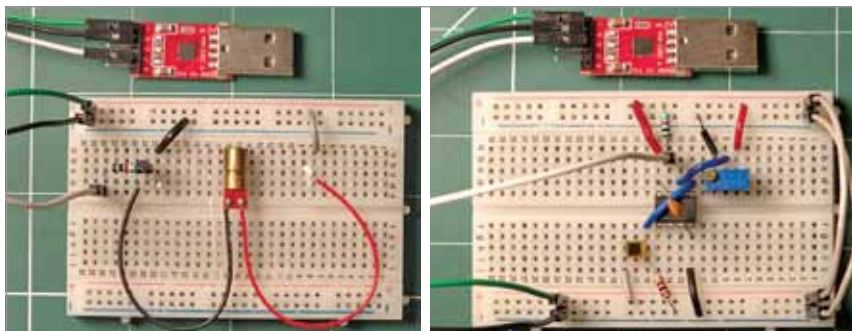

Fig. 1: Author's prototype of the transmitter (L) and receiver (R) units
The technique can be adapted for smartphones and other portable devices, enabling high-speed file transfer using the built-in camera flash LEDs and optical sensors, at speeds significantly higher than many traditional wireless methods. Fig. 1 shows the author's breadboard prototype of the transmitter (L) and receiver (R) units.